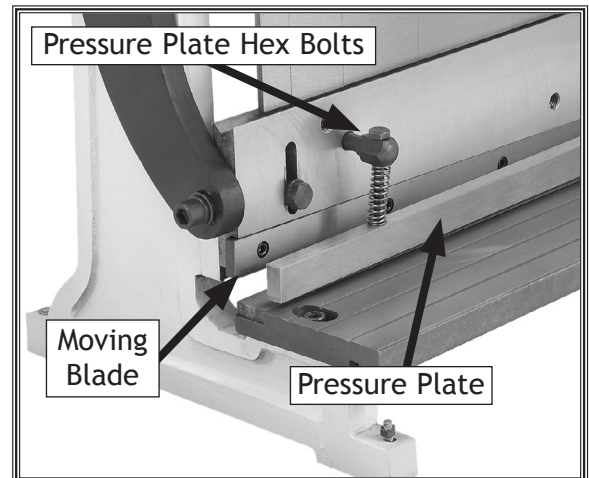

Figure 6. Pressure plate adjustment.
6. The pressure plate should make contact with the sheet before the blade does. If it does not, adjust the two hex bolts on the pressure plate brackets to lower the pressure plate (see **Figure 6**).